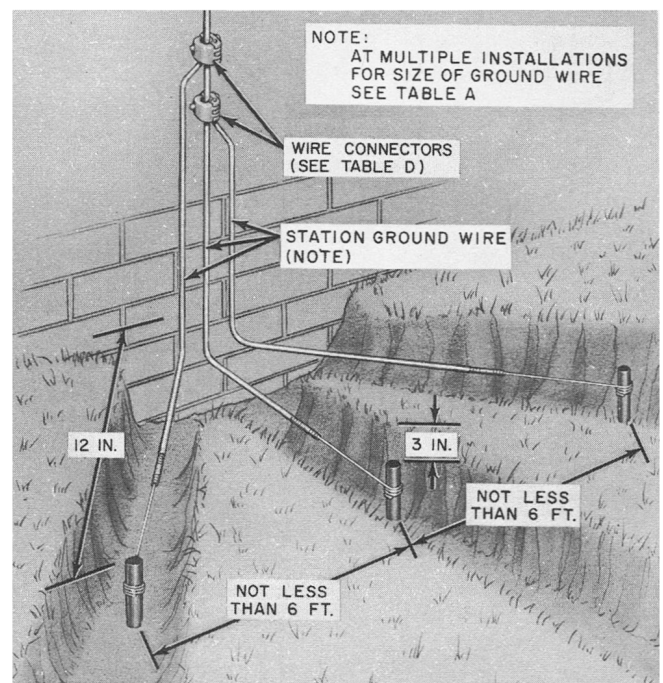

Fig. 29—Three Ground Rods
- (a) If a power ground rod is not available, install a ground rod for each protector. Bond all protectors together. No more than 3 ground rods need be placed. Place station ground wire from each ground rod as shown in Fig. 29.
7.05 Multiple station protectors, such as the 109, 116, or 117 type, may be connected to any of the grounds shown in Fig. 6 through 18 but should not be connected to a single telephone ground rod unless the rod is bonded to the power system ground rod. If a power ground rod is not available, a multiple station protector may be connected to an array of three telephone ground rods, spaced at least 6 feet apart and bonded together with No. 6 station ground wire (Fig. 29).